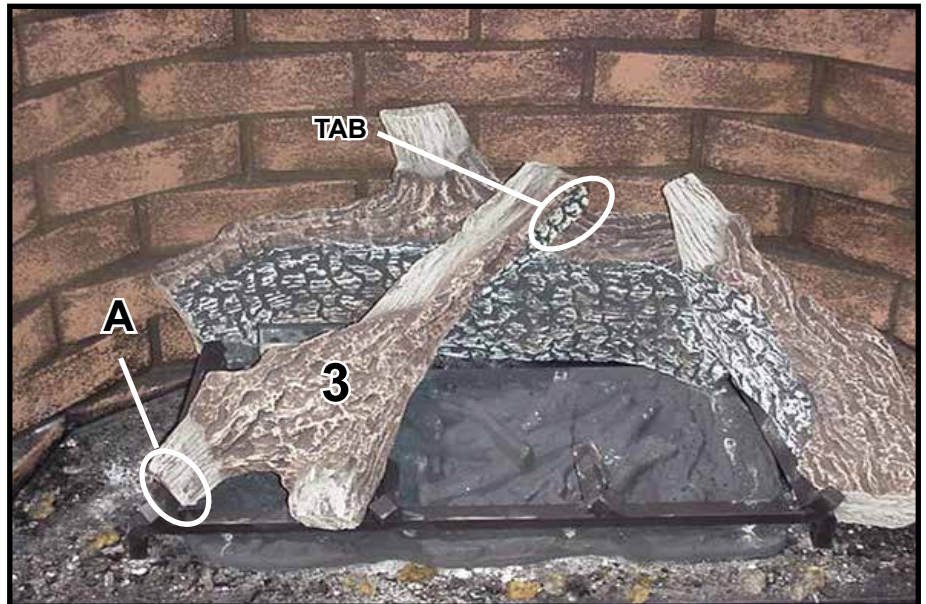

Figure 4.
Place the notch on the tip of log #3 over the locating tab on log #1. Place the left leg of the log on the far left grate tine (A). See Figure 4.